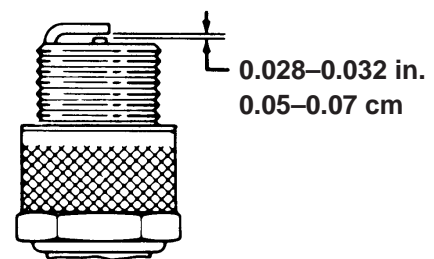

Figure 33
3. Set the air gap at 0.028 to 0.032 in. (0.05 to 0.07 cm) (Fig. 33).